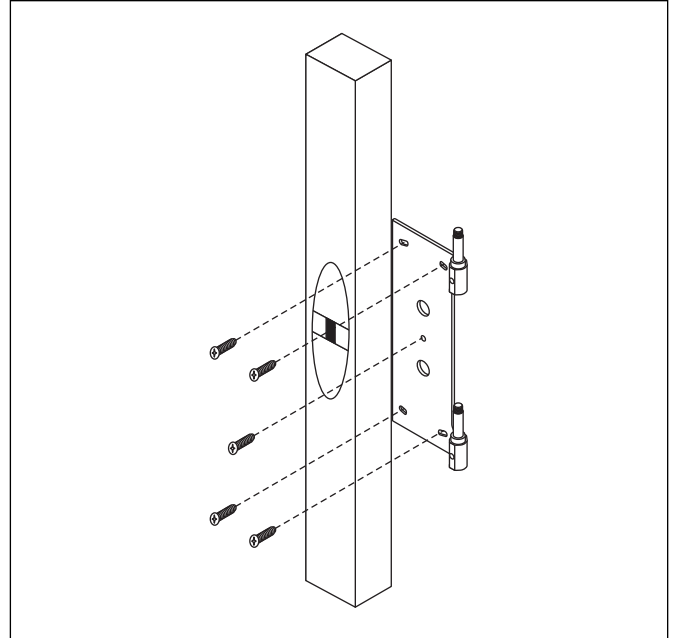

Figure 7. Steps 6–8
- 6 Mount the wall bracket to the center wall anchor (or pilot hole) using a 1" Phillips head screw driven through the wall brackets center point. Do not fully tighten the screw—the bracket must be vertically leveled before installing the remaining screws. The cylindrical hinges on the wall bracket should point away from the wall and the hinge pins should point upwards towards the ceiling (see figure 7).
- 7 Using a level, square the bracket and drive the four remaining 1" Phillips head screws into the upper and lower wall anchors (or pilot holes). Do not fully tighten the screws (see figure 7).
- 8 Using a level, make sure the bracket is level and tighten all five screws (see figure 7).